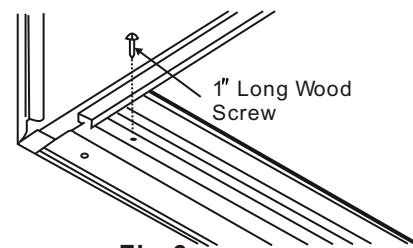

Fig.6
- Secure bottom rail to wood frame with two large wood screws 1" (2.5cm) long using the two holes in the bottom of the channel resting on frame. (See Fig.6).